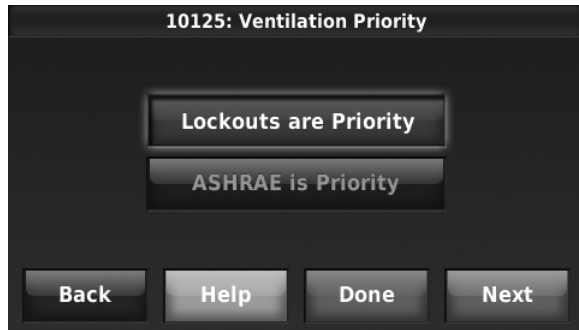

Fig. 150.
7. Select a Ventilation Priority (see Fig. 150):